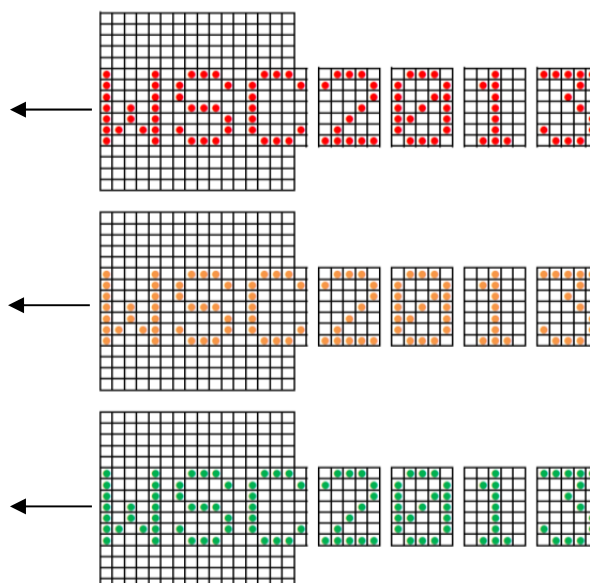

Figure 2. The dot layout of characters and numbers
- (1) When S1 is 000, DS1 should display the correct real-time message "WSC".
- (2) Initially, the string "WSC 2013" should be displayed and scrolled in RED at correct positions on DS1. The dot layout of characters and numbers is shown in Figure 2, and the string should be scrolled left about every 0.2 sec.
- (3) If finger hits the task board, the color of DS1 should be changed in the sequence, RED, YELLOW, GREEN, RED, YELLOW, GREEN....., shown in Figure 2. The function should include de-bouncing.
- (4) LED1~LED4 should follow table 2.